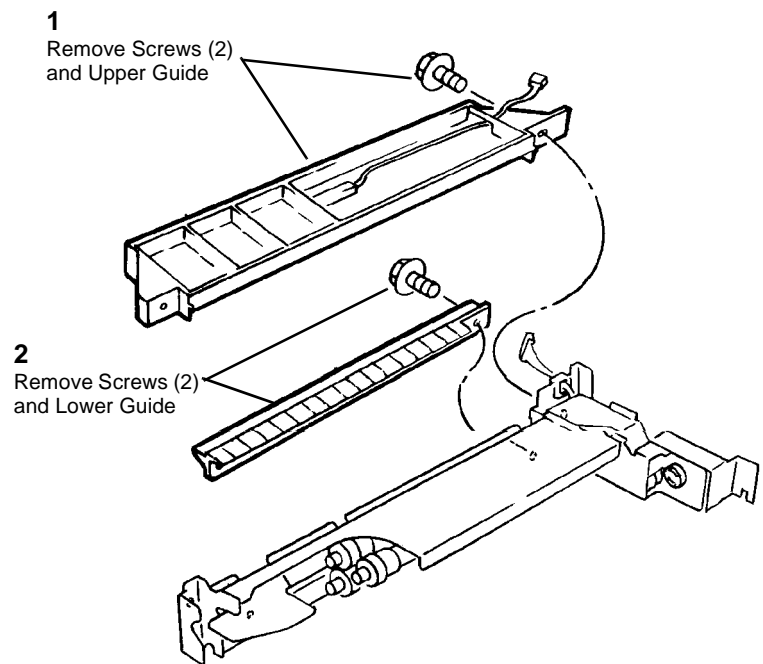

Figure 3 Removing the Guides
5. Remove the Tray 4 Feeder Guides (Figure 3).